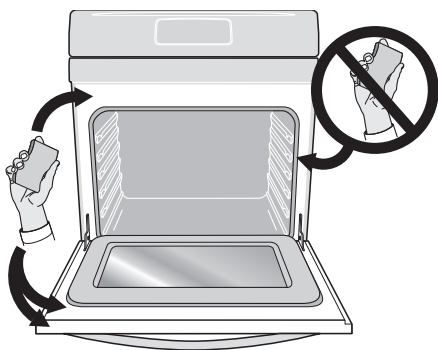

Figure 16: Clean around the oven door gasket
- Do not clean the oven door gasket (Figure 16). The woven material of the oven door gasket is essential for a good seal. Care should be taken not to rub, damage, or remove the gasket.
- Clean any soil from the oven frame, the door liner outside the oven door gasket, and the small area at the front center of the oven bottom. These areas heat sufficiently to burn soil on. Clean with soap and water. These areas are shown in white (Figure 16).